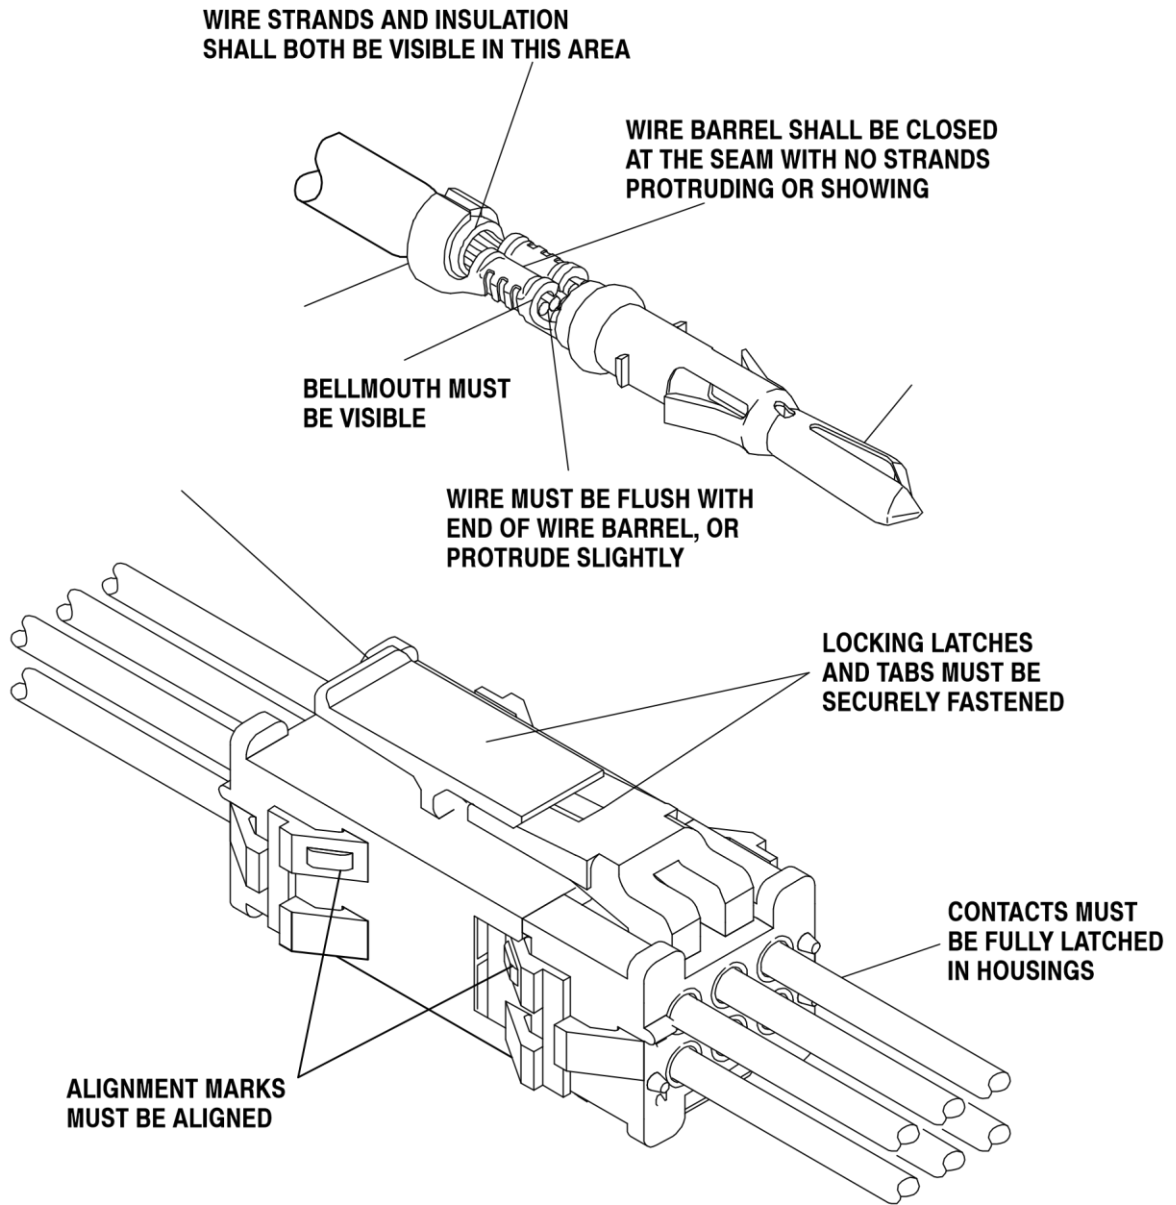

FIGURE 10. VISUAL AID
Figure 10 shows a typical application of a Miniature Rectangular (MR) Contact and Housing. This illustration should be used by production personnel to ensure a correctly applied product. Applications which DO NOT appear correct should be inspected using the information in the preceding pages of this specification and in the instructional material shipped with the product.